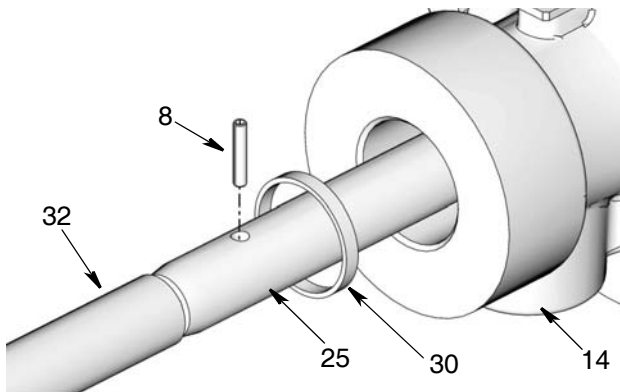

Fig. 42
10. Install gasket (30) into bottom cover (14) (Fig. 42).
11. Screw the connecting rod (32) and the displacement rod (25) together, aligning the pin hole in both
pieces to allow the pin to be pushed through (Fig. 42).
12. Replace the pin (8). Use a rubber hammer to tap the pin into place, being careful to make sure the sides of the pin are flush with the outside surface of the connecting rod (Fig. 42).
15. Slide spacer cylinder (36) into bottom cover (14).
16. Using a strap wrench, tighten and torque spacer cylinder (36) to 45 - 55 ft. lbs (61.0 - 74.5 N.m).
17. Use a permanent marker to record the pump part number, serial number and series code shown the original label located on the old air cylinder, onto the new label (101) included in the kit.
18. Apply label (101) to the new cylinder. Apply the clear overlay (102) over the new label.